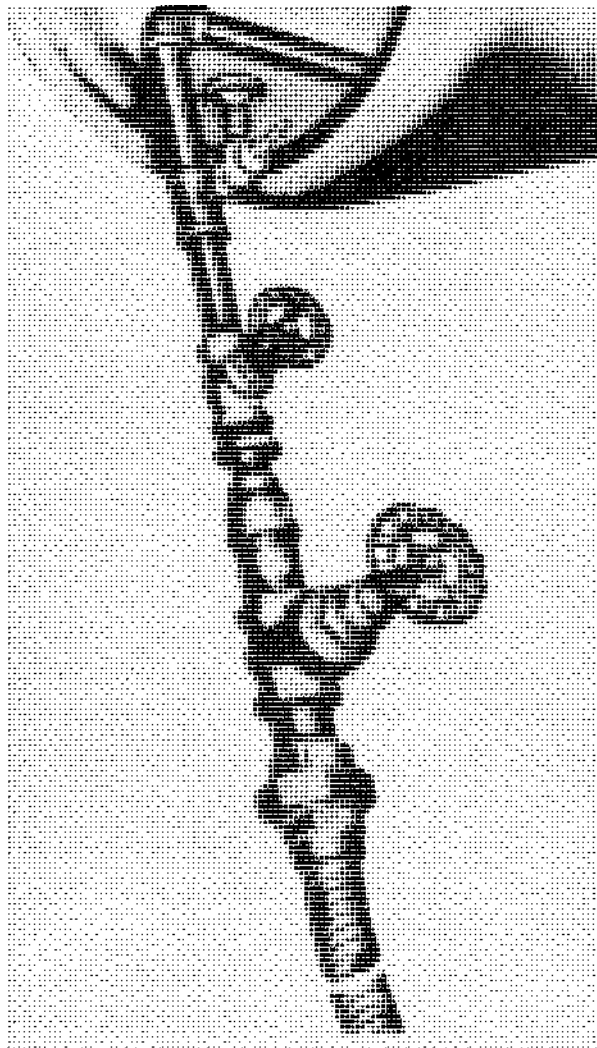

Figure 5. Venting assembly connected to plughole in 1-ton container.
d. Connect the  $\frac{3}{4}$ -inch by 8-inch pipe nipple 7, (fig. 1) into the open plughole in the 1-ton container (fig. 5). Then connect the venting assembly (b above) to the pipe nipple.